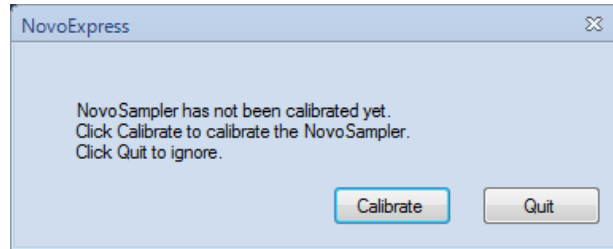
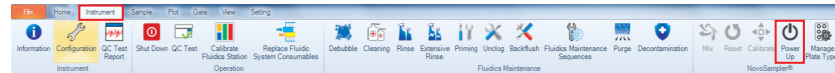
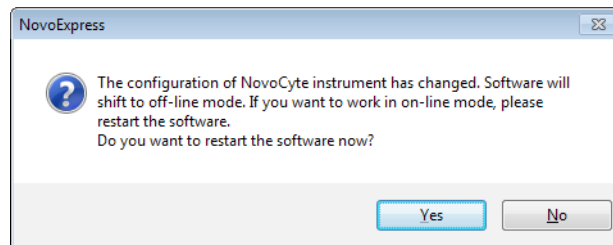

Figure 1-9 Dialog Box to Indicate NovoSampler Pro Calibration
Figure 1-10 Power on NovoSampler Pro
Figure 1-11 Dialog Box to Restart NovoExpress Software
- 5 Power on the NovoCyte Flow Cytometer by pressing the power button  on the instrument. Start the NovoExpress Software by double-clicking the icon  from the workstation desktop. The software will display a dialog box requesting to calibrate the NovoSampler Pro, as shown in Figure 1-9. Click *Calibrate* to start the calibration of the NovoSampler Pro. Calibration can be postponed, but the software will not allow for samples to be collected until a calibration is performed successfully. To manually start the NovoSampler Pro calibration, click the *Instrument* → *NovoSampler Pro* → *Calibrate* on the NovoExpress software.
-  If the NovoCyte is already powered on, ensure NovoExpress is launched, click **Instrument** → **NovoSampler® Pro** → **Power Up** in NovoExpress software main window to power on the NovoSampler Pro (Figure 1-10). The software will prompt a dialog box requesting to restart the NovoExpress software, as shown in Figure 1-11. Click **Yes** to restart the software. After log in the software, software will prompt to calibrate the NovoSampler Pro as shown in Figure 1-9. User can click *Calibrate* to calibrate the NovoSampler Pro.